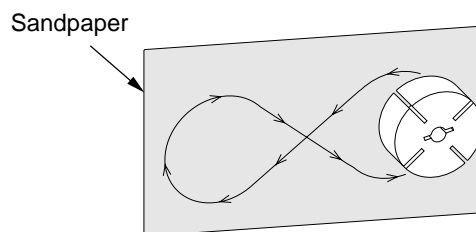

Figure 32 - Sanding Rotor
14. Place fine grade sandpaper (600 grit) on flat surface. Sand rotor lightly in "figure 8" motion four times (see Figure 32).